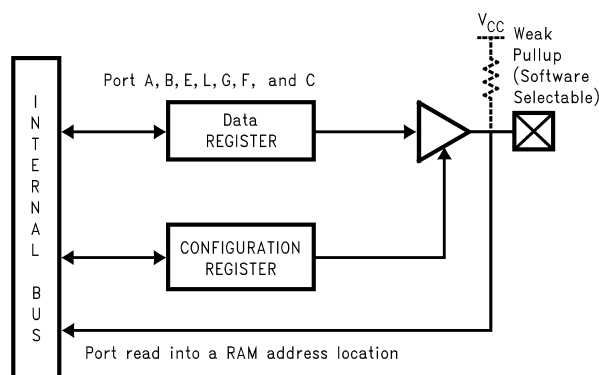

**Figure 4-2. I/O Port Configurations**
The device contains up to six bidirectional 8-bit I/O ports (A, B, C, E, G and L) and one 4-bit I/O port (F), where each individual bit may be independently configured as an input (Schmitt trigger inputs on ports L and G), output or TRI-STATE under program control. Three data memory address locations are allocated for each of these I/O ports. Each I/O port has three associated 8-bit memory mapped registers, the CONFIGURATION register, the output DATA register and the Pin input register. (See the memory map for the various addresses associated with the I/O ports.) Figure 4-2 shows the I/O port configurations. The DATA and CONFIGURATION registers allow for each port bit to be individually configured under software control as shown below: